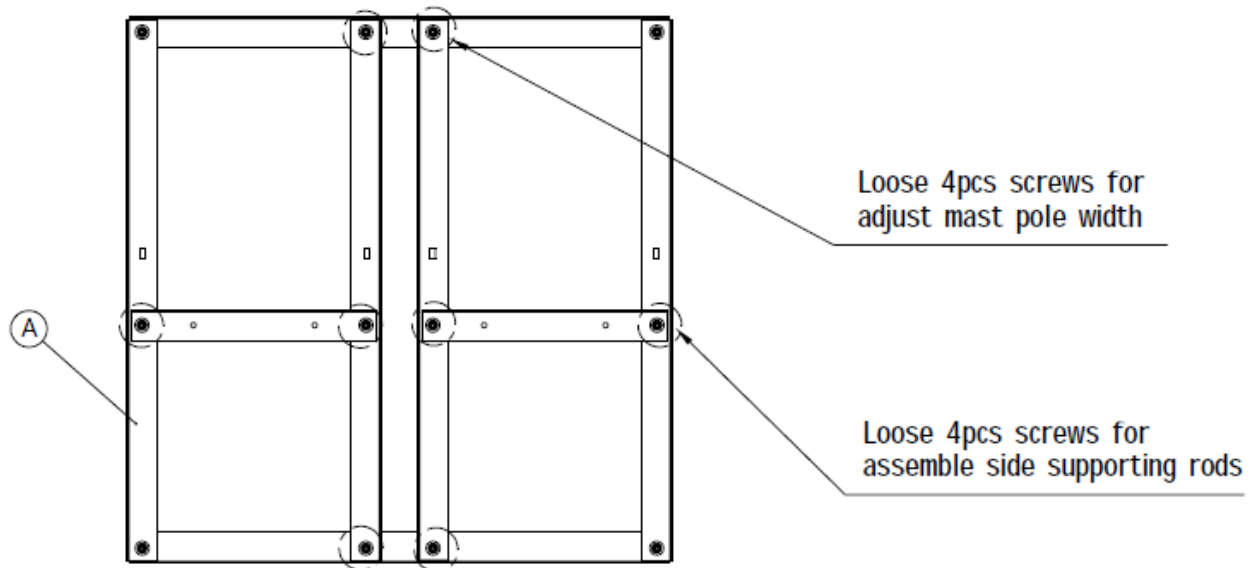

Figure 31: Loosening the ground mounting screws
2. Loosen the eight ground mounting screws shown in Figure 31 below. Loosening these screws will allow you to adjust the base (A) to fit snugly around each component that you secure to it in the steps below.